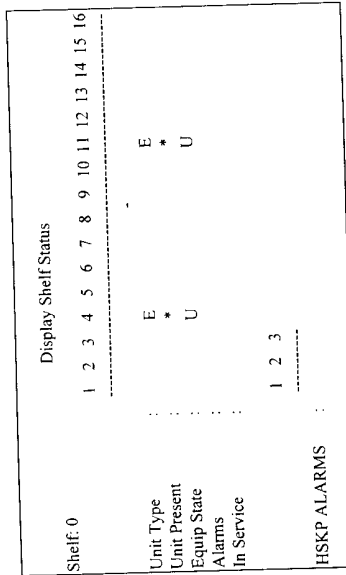

Figure 3-10 Shelf Status Screen
- Use the Arrow or Numeric keys to select Display Shelf Status from the Display Status Menu. Press the Enter or Return key. The Shelf Status screen is shown in Figure 3-10.